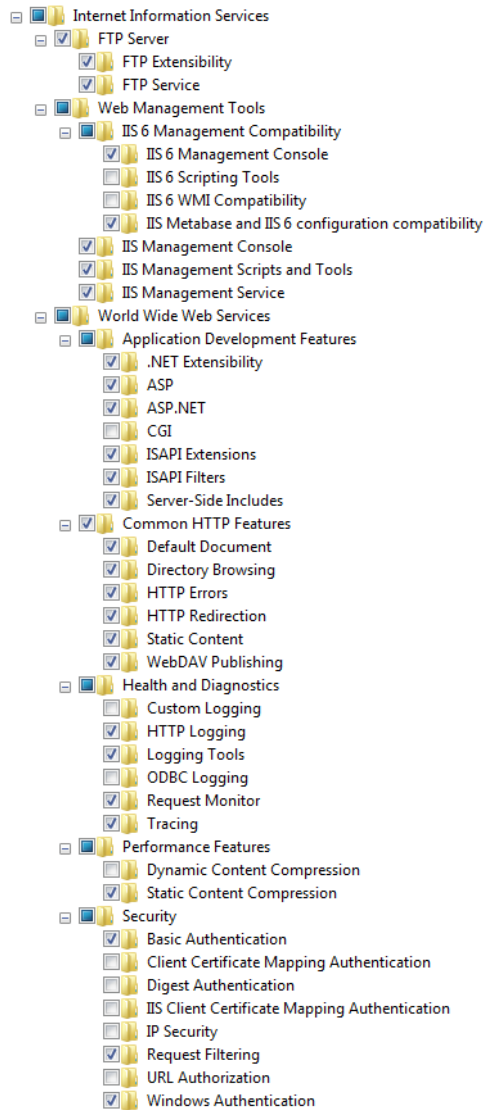

Figure 9. IIS Configuring IIS Components on the Workstation Operating System.
6. Make the settings as shown in Figure 9. For detailed instructions for making the settings continue with Step 7.